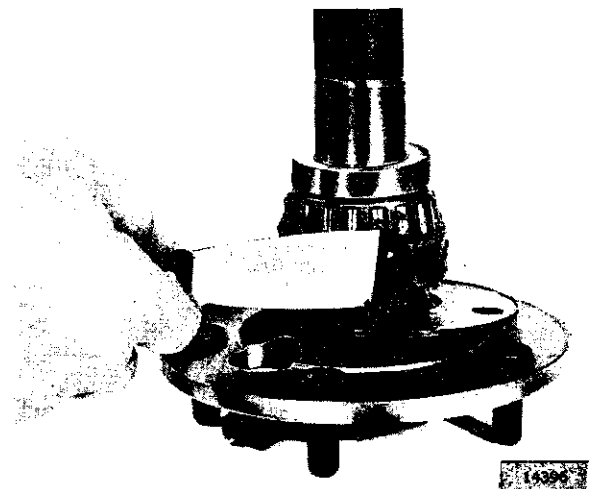

FIG. N-9—LUBRICATING BEARING
- b. Push seal away from bearing and fill the area or cavity between the seal and bearing with the recommended grease. Refer to Fig. N-9.